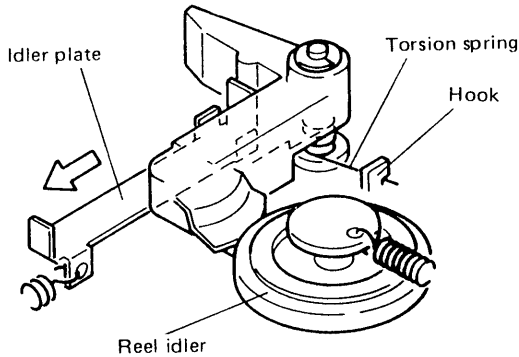

Fig. 2-14 Torsion spring position
- Take out screw (30) and remove the LED holder.
- Take out slit washer (25) to remove the reel idler upwards. Use care regarding the torsion spring under the reel idler.
5. Replace the reel idler and reassemble by reversing the above steps. Check that the torsion spring is mounted on the correct position as shown in Fig. 2-14.